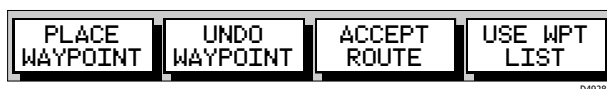

Figure 3-30: Make Route Soft Keys
4. Press the MAKE ROUTE soft key; the make route soft keys are displayed as shown in Figure 3-30.